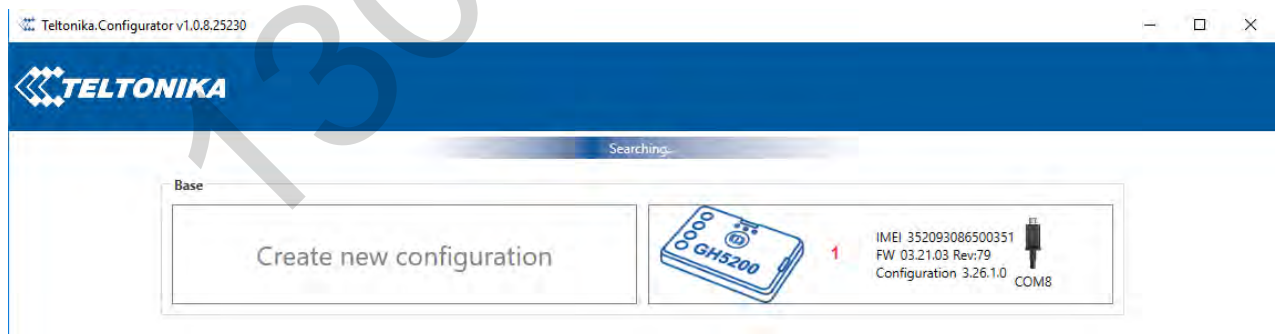

Figure 24 GH5200 configurator devices connection window
- After successful connection to the device wait a few moments while the device loads the current configuration, then navigate to Bluetooth section as shown on **Figure 24**.
- When device configuration is loaded press **Bluetooth** settings (**Figure 24** position 1).
- Turn on BT Radio by pressing Enable (visible) (**Figure 24** position 2). Local name (**Figure 24** position 3) will be "GH5200_last 7 imei digits" by default, which can be changed.
- Set **Security Mode** (**Figure 24** position 4) to **PIN only** or **None**. **PIN + MAC list** or **MAC list only** security modes could also be selected, but in that case external device MAC address is required to be entered to **Authorized Devices MAC List** (**Figure 24** 7 position).
- Set connection mode to **Hands Free** (**Figure 24** position 5).
- Set **External Name** (**Figure 24** position 6) as your hands-free device name for proper identification. In the given example hands-free headset name is "DMH10" but at least 2 characters are required to recognize it and connect to it. For better and quicker adapter identification on the network you could enter a full device name. You could check your hands-free adapter Bluetooth name by scanning nearby Bluetooth devices using a mobile phone or a computer with Bluetooth adapter.
Bluetooth starts automatically when GH5200 device is on. Take your mobile phone, go to **Settings->Bluetooth** and turn it on. Scan for nearby devices, find the device in the list, distinguish the device by last IMEI digits on device module. Press pair, wait until device asks to enter pairing password, type: "5555" (as in the example on the **Figure 24**). Paired device will show up in the paired device list. Download a terminal for Bluetooth e.g. *BlueTerm* from *Play Store/App store*. Run app, click **Find->Connect** to your paired device. Now we need to send a command to GH5200 from Bluetooth terminal, type: ".log:1". Device will respond with "Debug enabled" and GH5200 log will show up. Do not forget to save the log file to mobile phone.